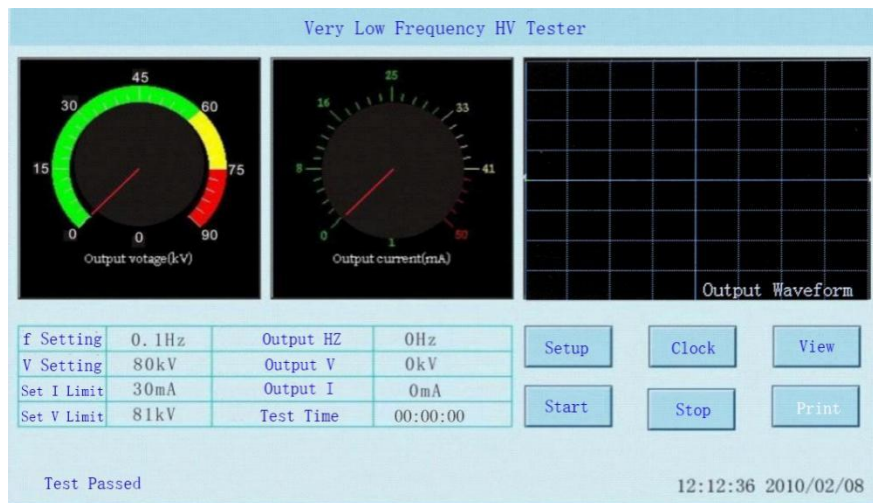

Figure 10 Schematic diagram of test passed
3.2.3 When the withstand voltage reaches the set time, it will automatically depressurize, and the instrument will prompt "experiment passed" after depressurization, as shown in Figure 10. After the test is completed, the instrument will automatically save the test data, and you can also select the "Print" button on the test interface, and the data can be printed.